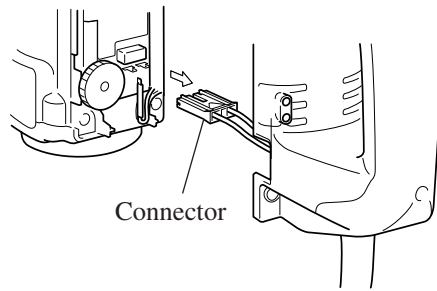

Fig. 11
(4) Disassemble connector as illustrated in Fig. 11.